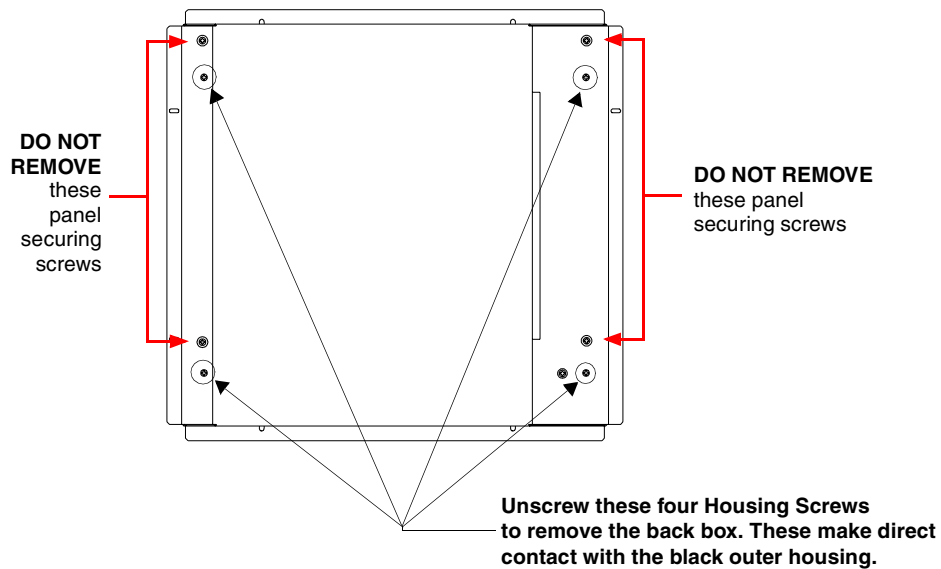

FIG. 22 Location of the securing screws on an NXD panel
2. Place the LCD facedown onto a soft cloth to expose the under-side of the unit (FIG. 22). This step helps prevent scratching of the LCD.
- Unscrew the four pan-head Housing Screws from the rear of the NXD unit (FIG. 22) and gently remove the outer housing. These four screws secure the back box to the internal panel casing.